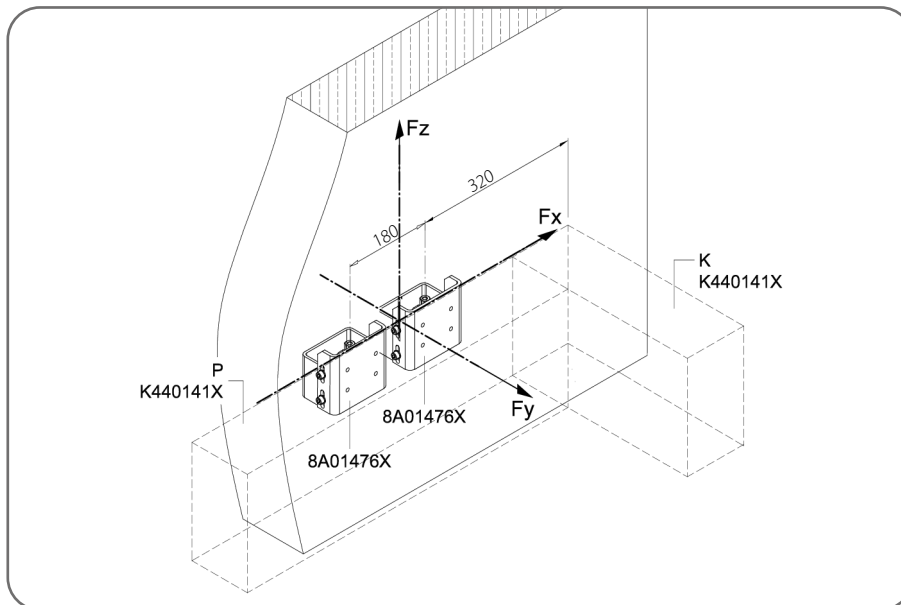

Fig. 6 Linear mounting bracket 8A01476X
- Depth (heaving soils): In the case of heaving soils (clay, loam, loess, silty sand), the bottom of the foundation must be below the local ground frost depth, specified for Poland in the range of 0.8 m – 1.4 m (according to Fig. 6).